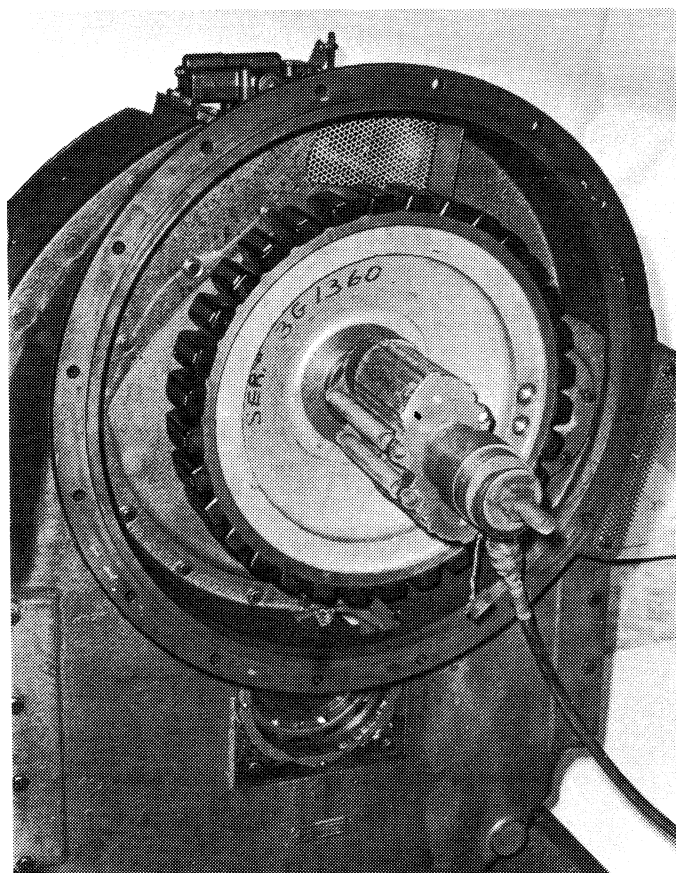

Figure 9-10. Installing Drive Spider Assembly.
13. Install the drive spider assembly. See Figure 9-10.